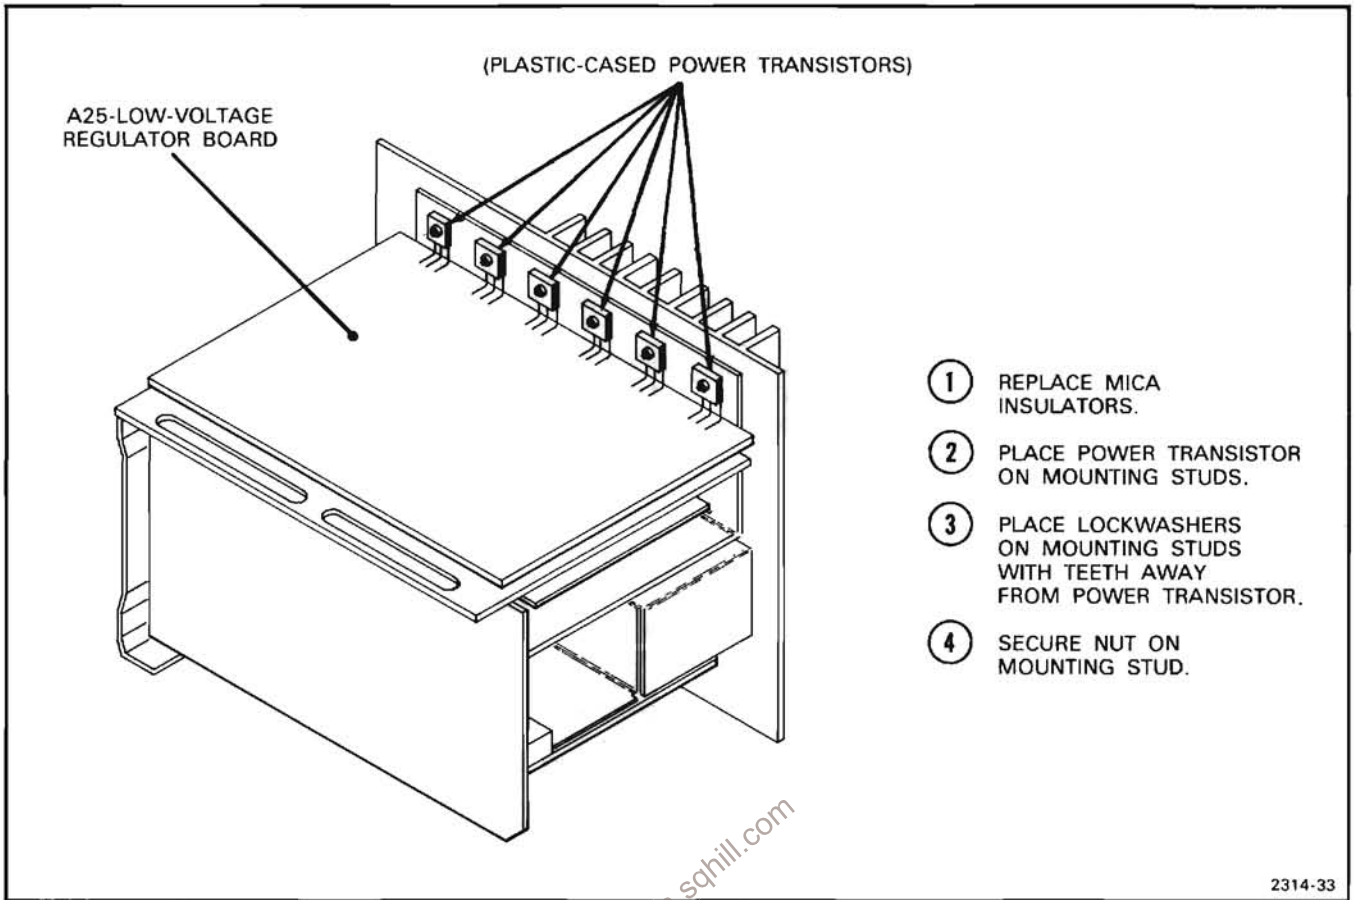

Figure 4-14. Correct placement of power transistor and mounting hardware on rear heatsink.
5. Remove the mounting hardware securing the plastic-cased power transistors to the rear heatsink (see Fig. 4-14). Note the position of the lockwashers so they can be correctly replaced.